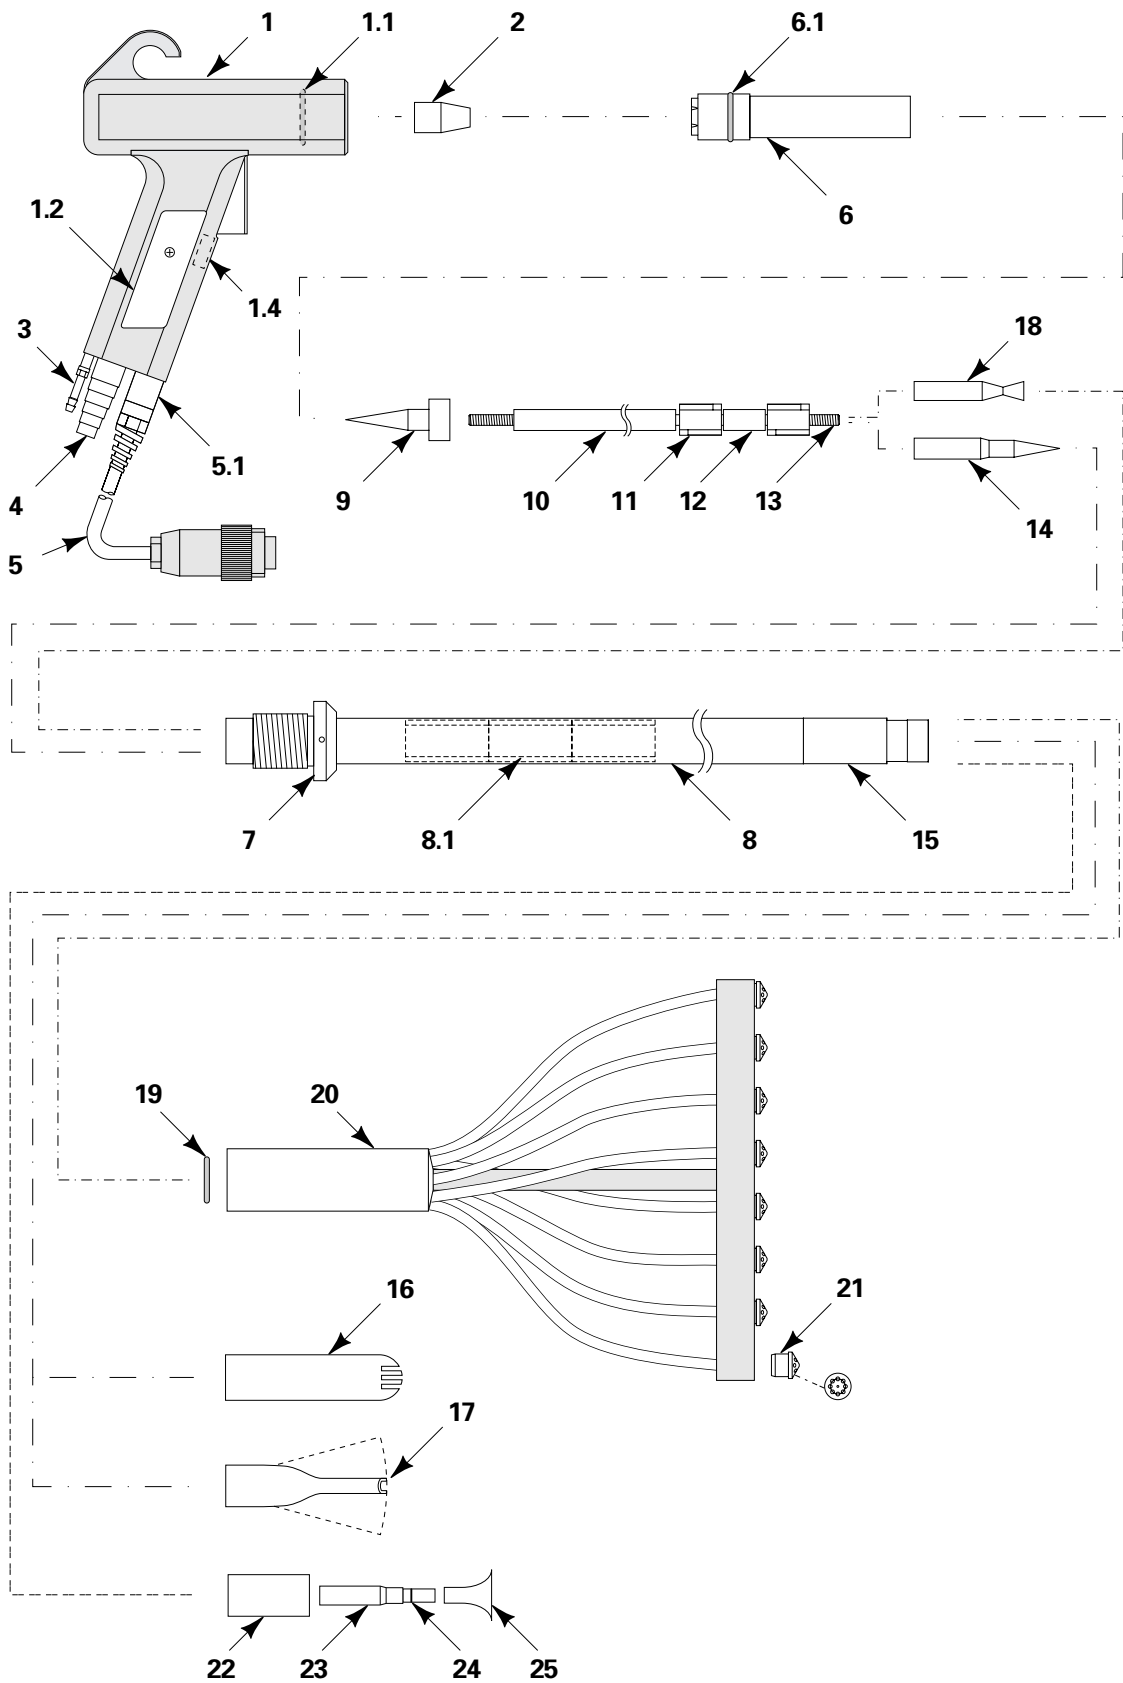

Figure 2
(The bold numbers in brackets in the text refer to the numbers in Figure 2 in the Spare Parts List).
1. Reassemble the spindle completely according to Figure 2 in the spare parts list